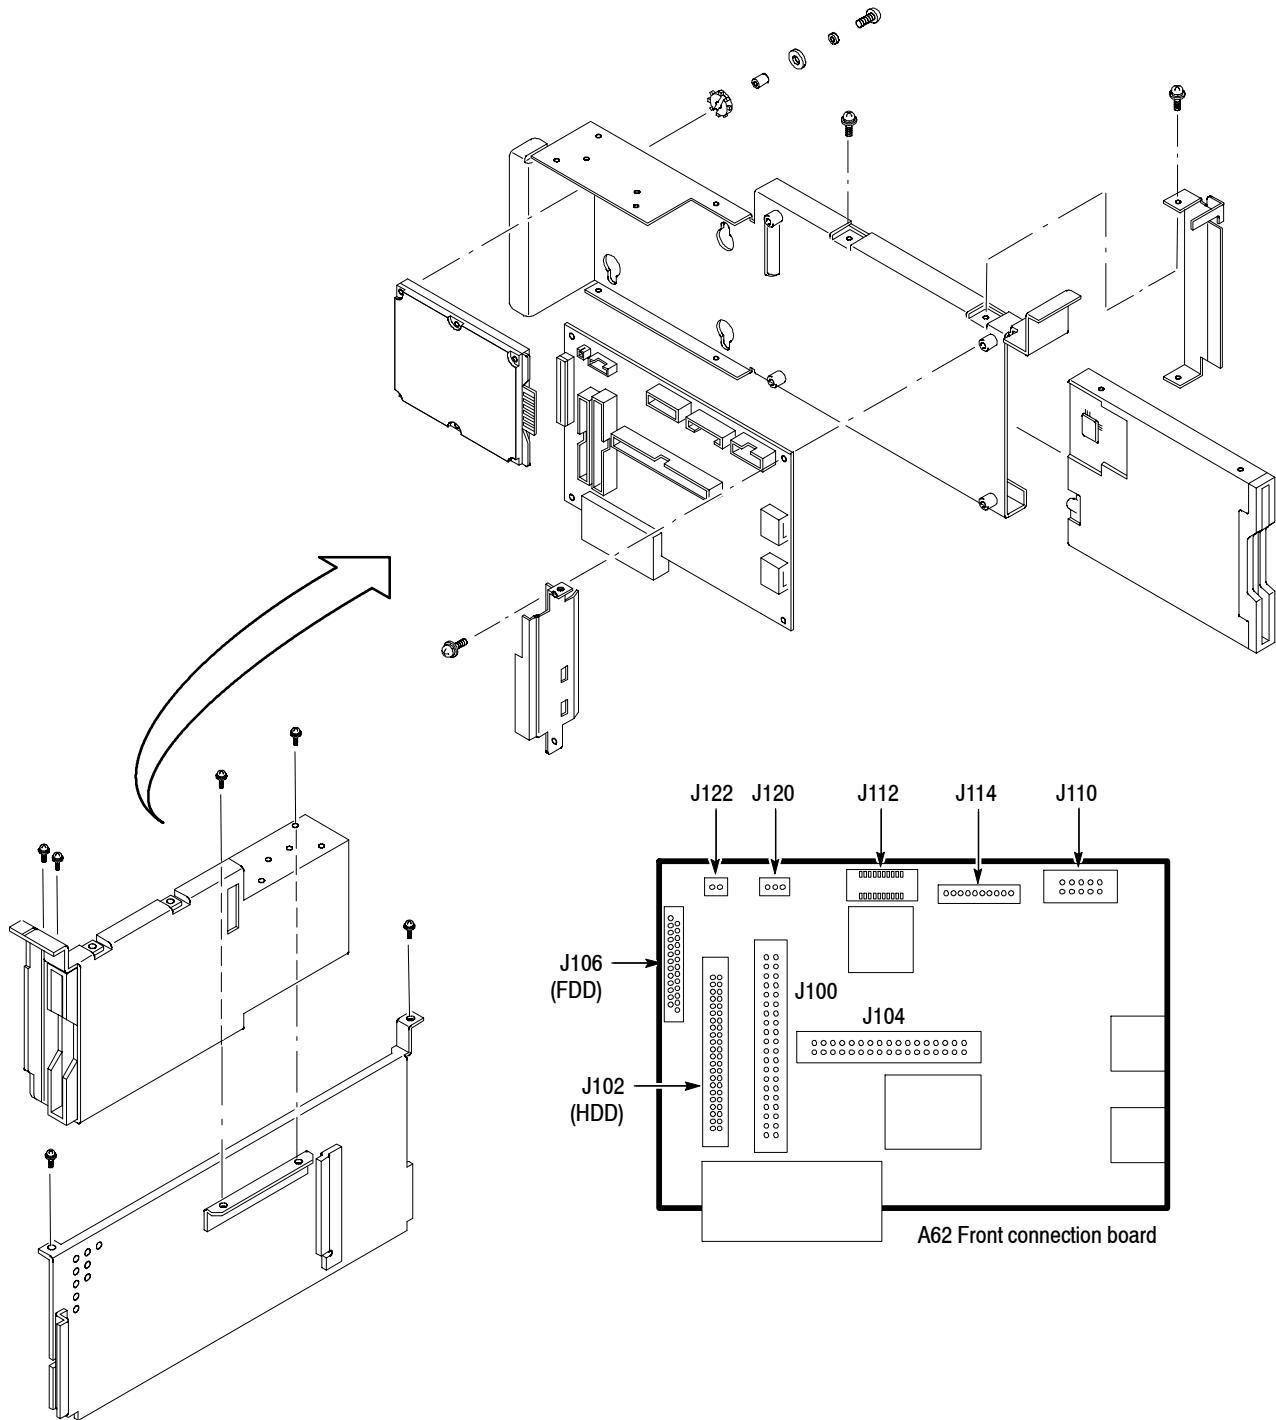

Figure 6-17: Disk module removal
3. Orient the analyzer: Set the analyzer so its bottom is down on the work surface and its left side is facing you.**4. Remove the disk bracket:** See Figure 6-17.
3. *Remove the floppy disk drive:* See Figure 6-17.
3. *Remove the A62 Front connection board:* See Figure 6-17.